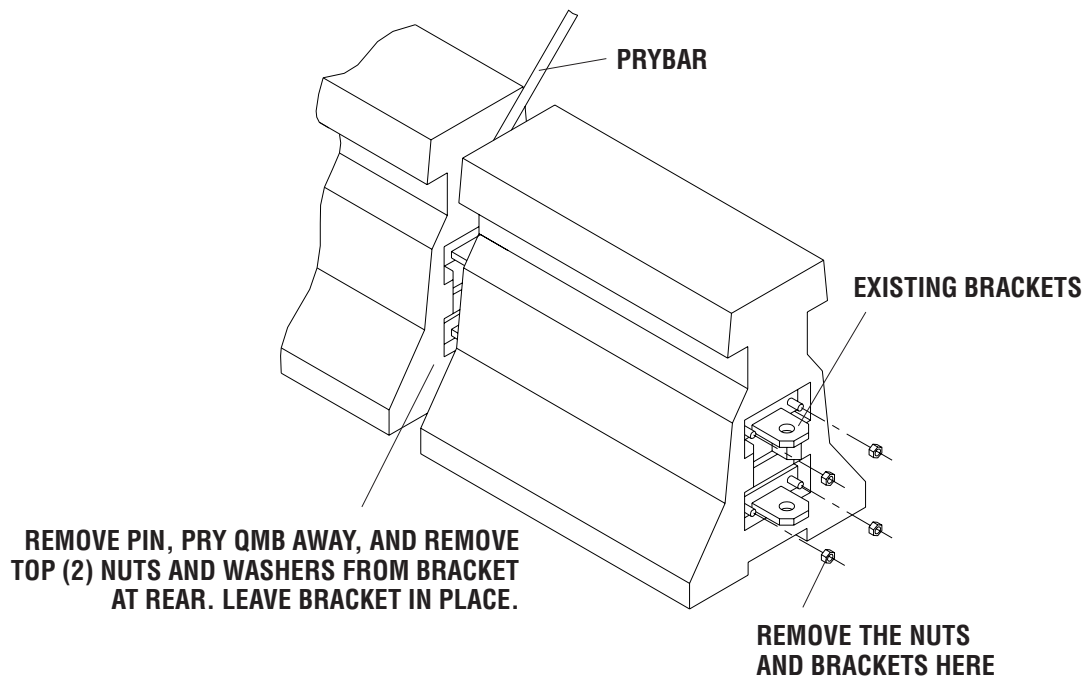

Figure 11
Step 1: Removal of Existing QMB Brackets (See Figure 11)
long by 25 mm [1"] diameter pins into the holes on the outside of the Backup to fix the Transition Panels in place. Align deflectors and tighten all allen bolts. If there is interference between the Transition Panels and the Backup, remove the Transition Panels and the Transition Support. Then add additional 7/8" lockwashers under the Transition Support as described in step 3 and shown in Figure 11. Additional 7/8" washers are included with the N-E-A-T system. Repeat the assembly described in steps 3, 4, and 5 until an adequate fit is obtained.